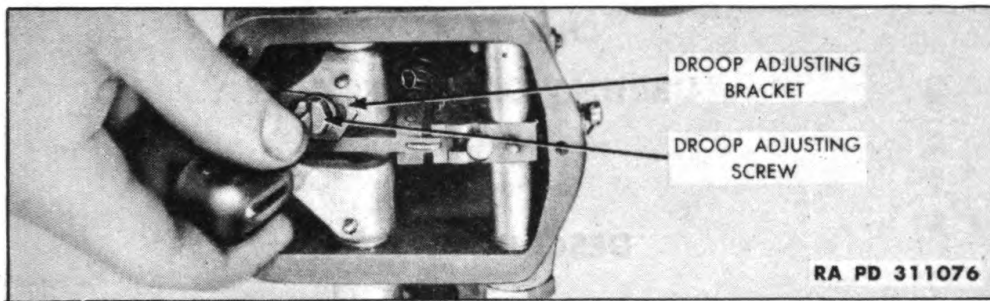

Figure 75 – Governor Droop Adjustment
a. **Set Droop Adjustment.** Locate droop adjusting screw in exact center of slot of droop adjusting bracket and tighten (fig. 75).